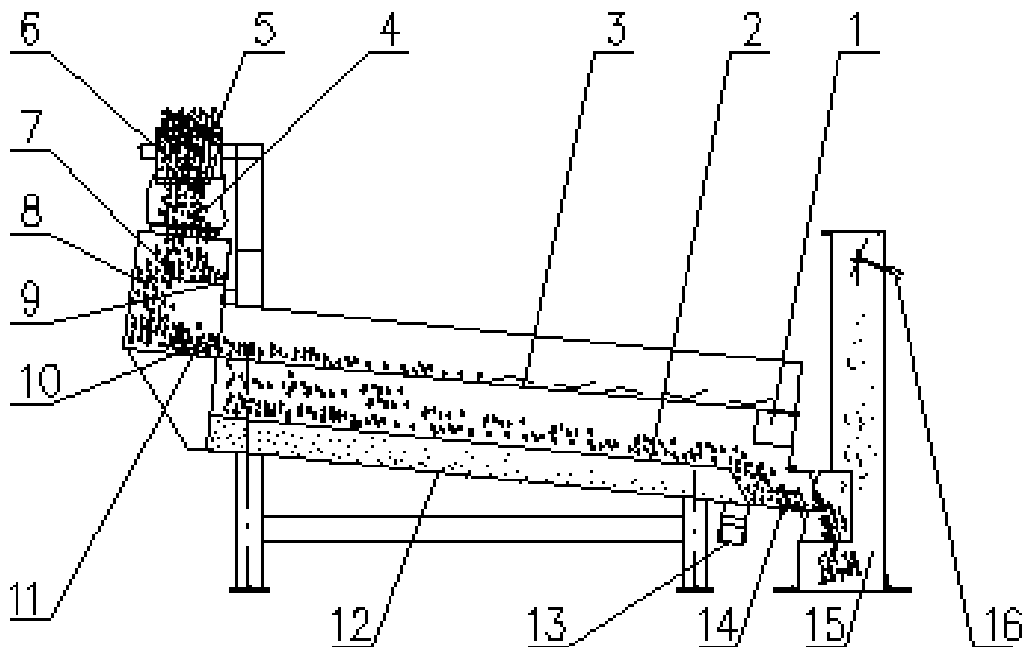

figure 2
1-4 Inspect the fixing of dividing material board (7) (figure 2), install the cloth tubes and hoop it tightly